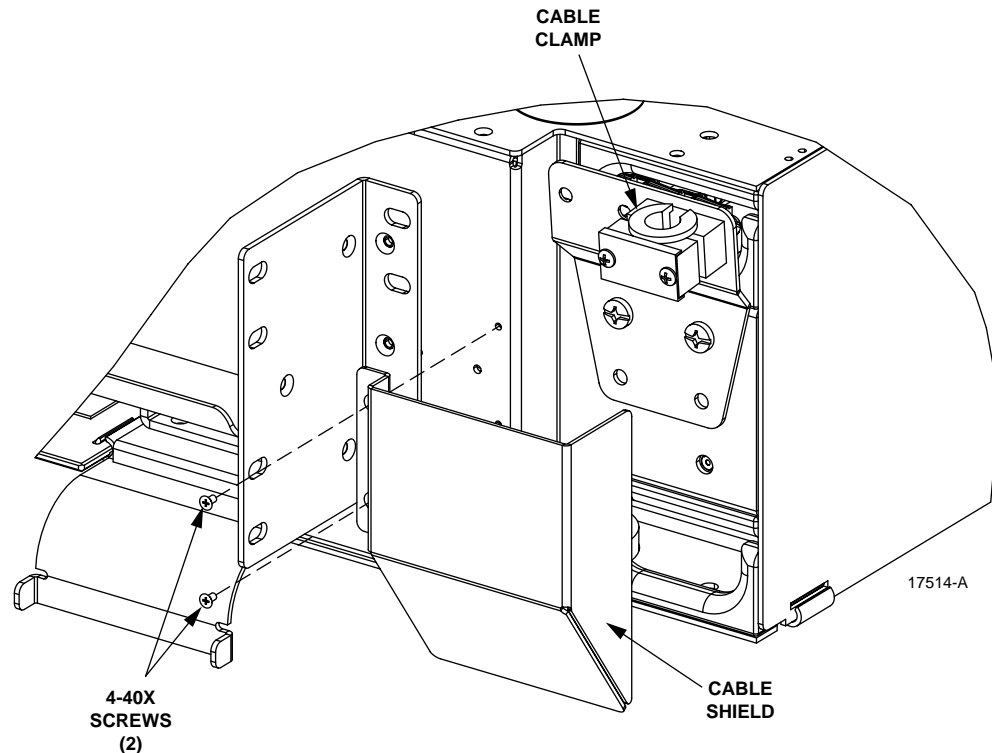

Figure 16. Cable Shield Components
6. If desired, install a cable shield using any of the three shields shipped with the connector module. Figure 16 shows the shield used for overhead cable. (The package also contains an alternate shield used for under-floor cable and a box-shaped shield used with either overhead or under-floor cable.)